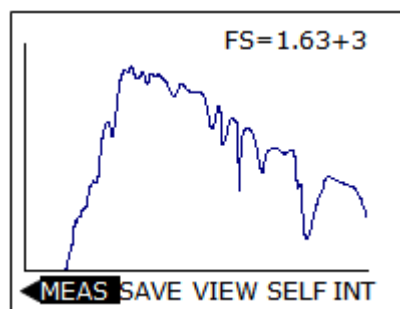

Figure 6-6. Spectral Data Display Screen
- (2) After the measurement, the spectral data is displayed in a graph such as the one shown in Figure 6-6. Full scale of the vertical axis for the spectral irradiance is shown at upper right. The unit of the full scale is  $W/m^2/\mu m$ . The spectral data, which is obtained at the latest, is displayed on LCD.
- (3) To save the data obtained by manual measurement, refer to [6-3. Measurement Functions], [3. Save Data]. These data are NOT automatically saved in the internal memory.